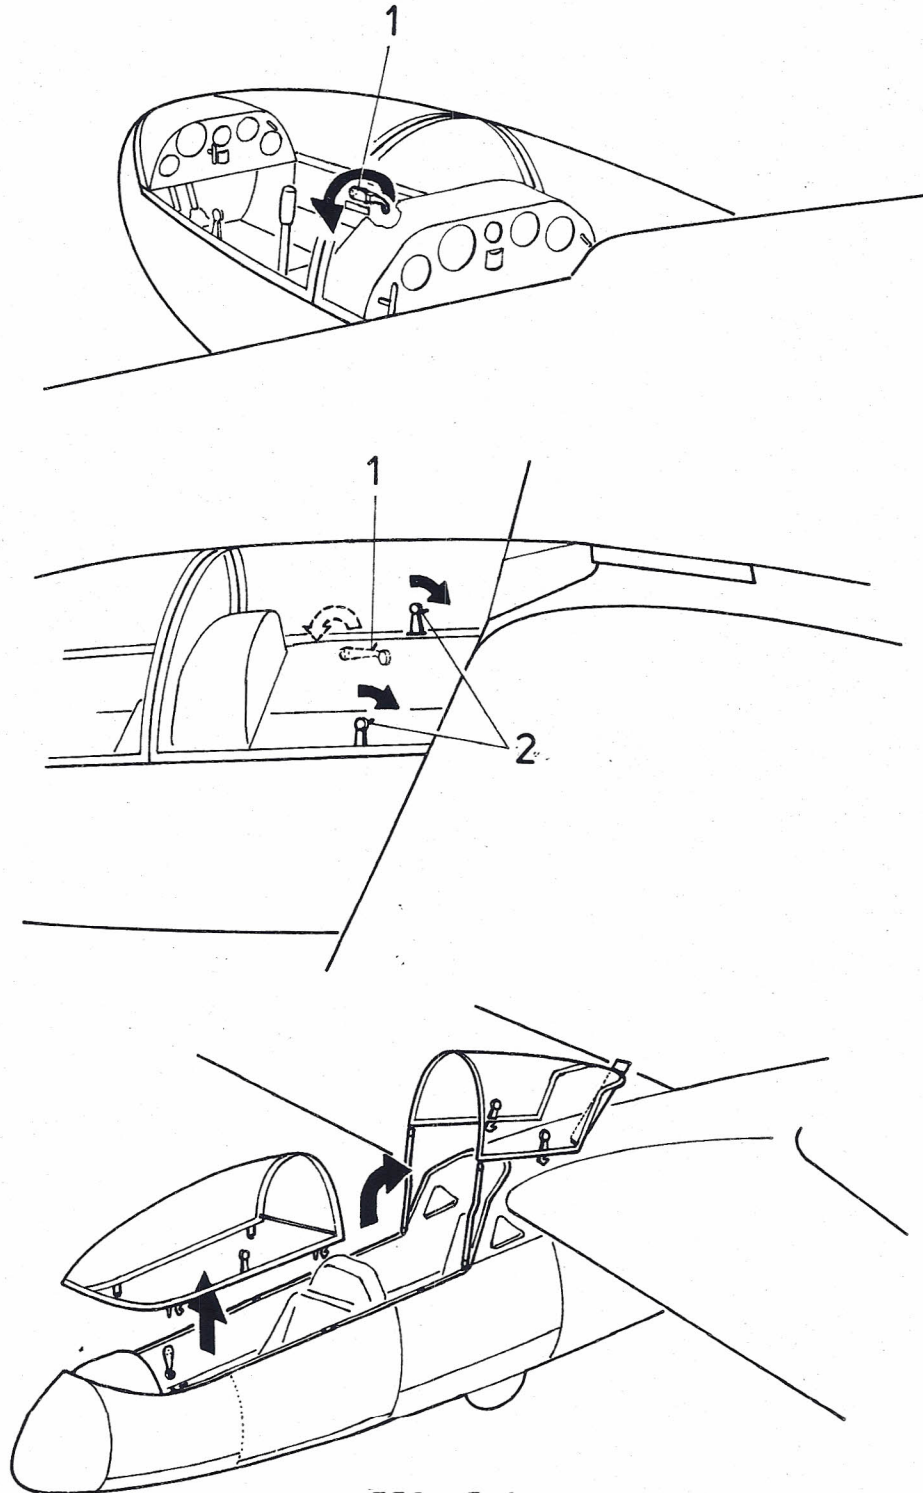

FIG. 3-1
1. Front canopy emergency jettison: rotate the lever through lever (red lever on the right 120° in the direction upper frame of the cockpit, marked by the arrow Fig. 3-1, pos. 1) under the lever
1. The rear canopy jettison levers (levers with the red handle on both sides of the rear cockpit border, Fig. 3-1, pos. 2) : rotate the levers in the direction marked by the arrow and lift the canopy up
- a) Front canopy emergency jettison lever (red lever on the right upper frame of the cockpit, Fig. 3-1, pos. 1) : rotate the lever through 120° in the direction marked by the arrow under the lever